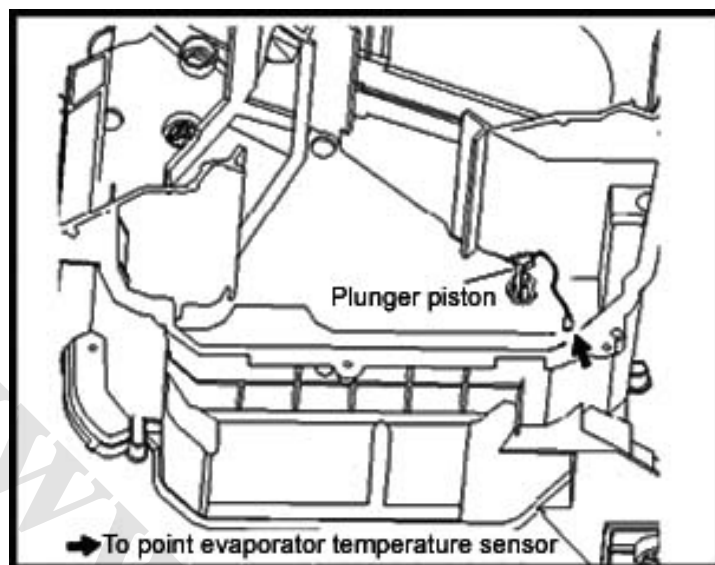

Figure 6-26
1) Take out the evaporator, as shown in Figure 6-26.